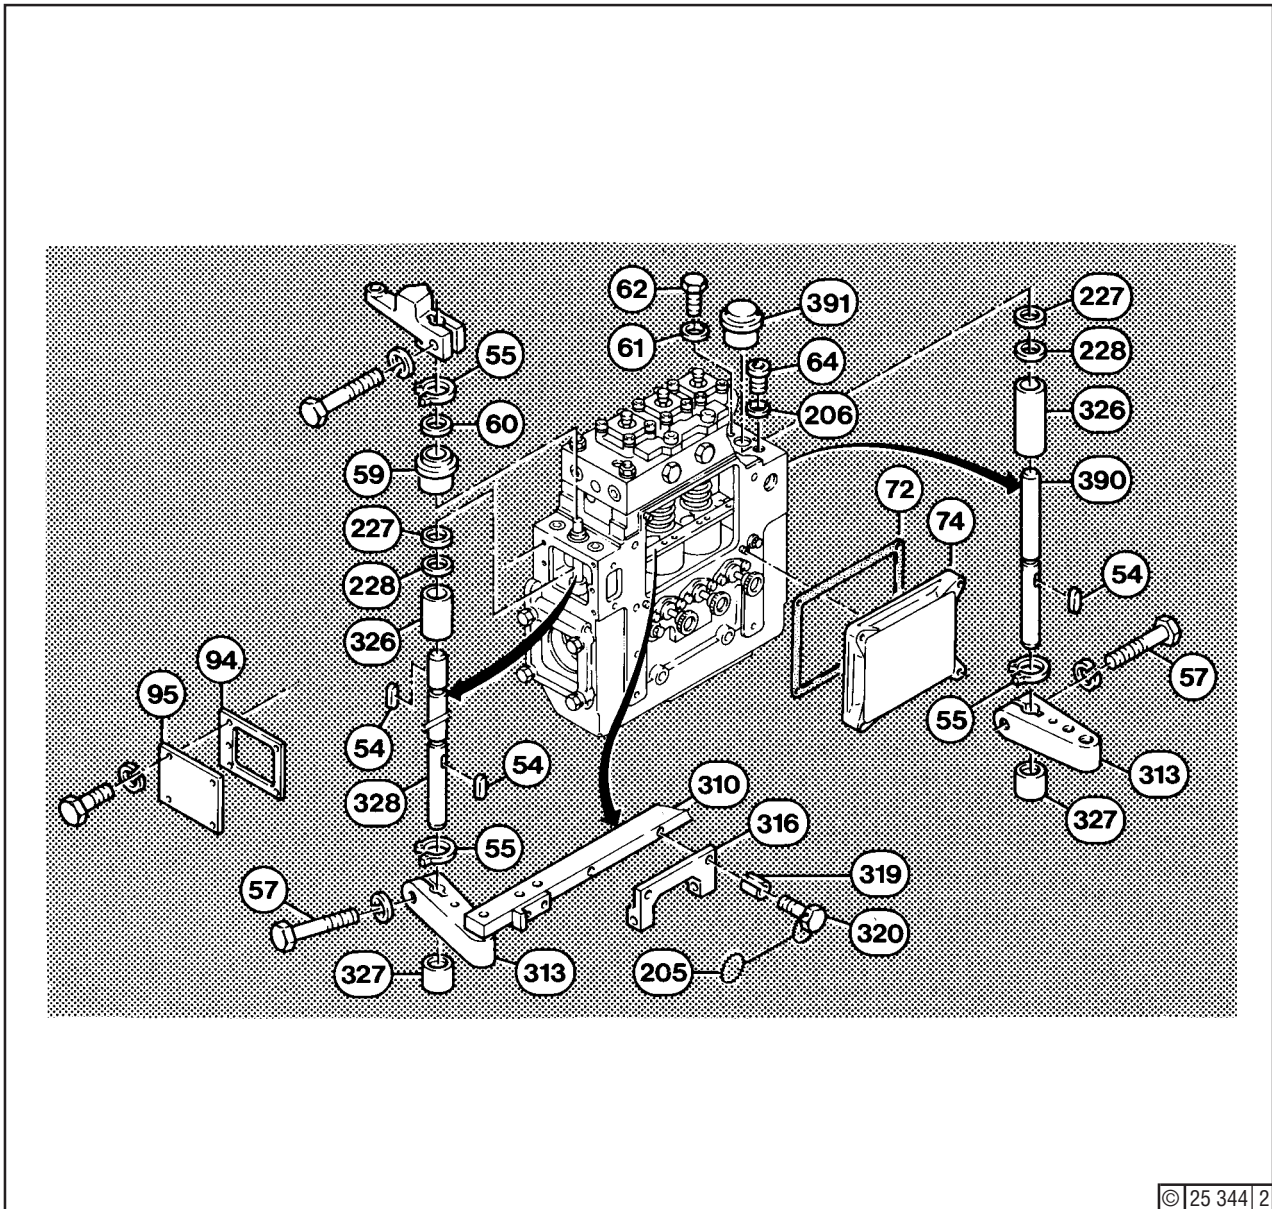

Fig. 2
Remove cover (95) - Fig. 2 - and gasket (94). Then, take down cover (74) with gasket (72). Open lead-seal wire (205), unscrew hex. bolts (320) and carefully withdraw lever (316) from the two clamping bushes (319).
Lead-seal hex. bolts (320) - Fig. 2, if possible. Otherwise have the bolts lead-sealed at the nearest Deutz Service Station.